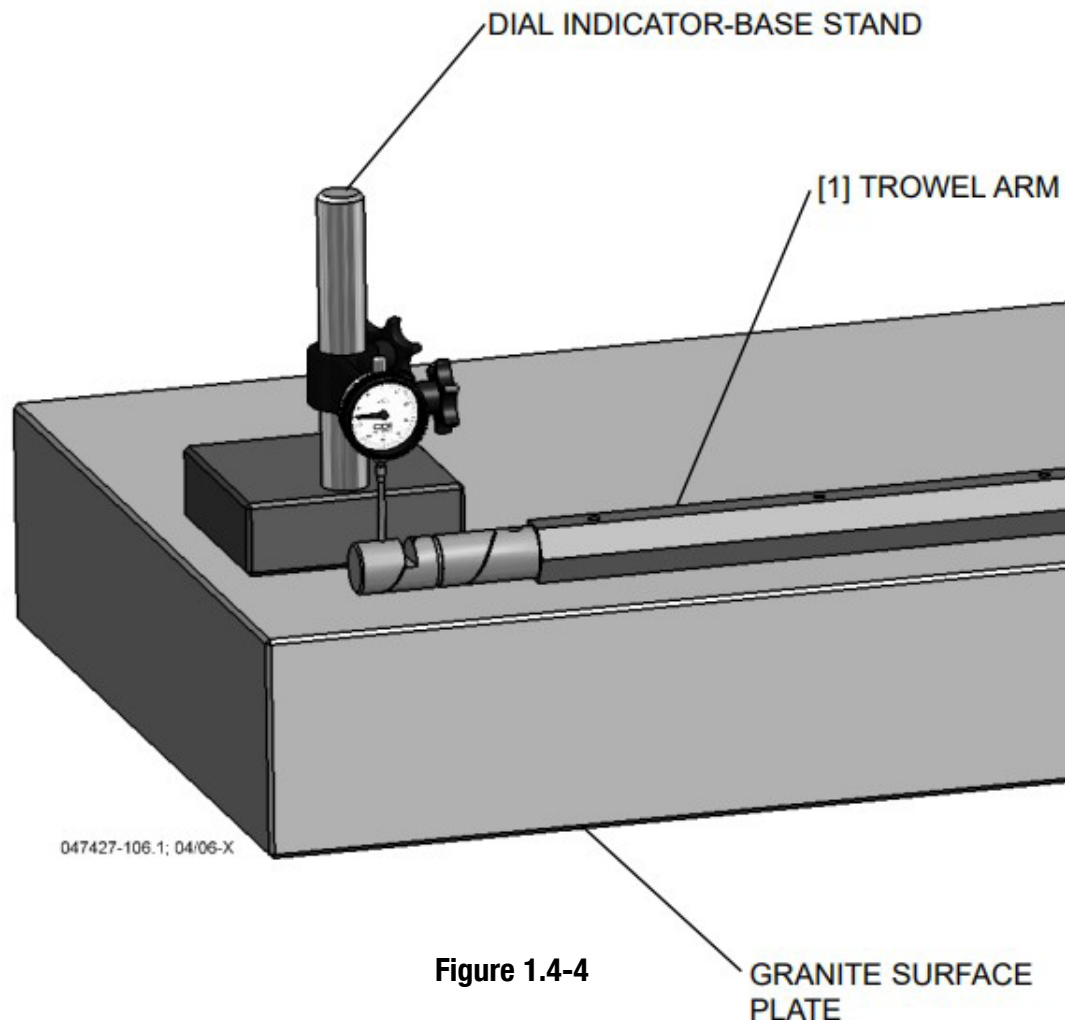

Figure 1.4-4
Refer to Figure 1.4-1 (for Flatness Check) and Figure 1.4-4 (for Circularity Check) to locate and identify components described in the following procedures.
- Step 2:** Place the trowel arm onto a extremely flat and stable surface. It is highly recommended that a granite surface plate be used to perform this procedure accurately. Refer to Figure 1.4-4.